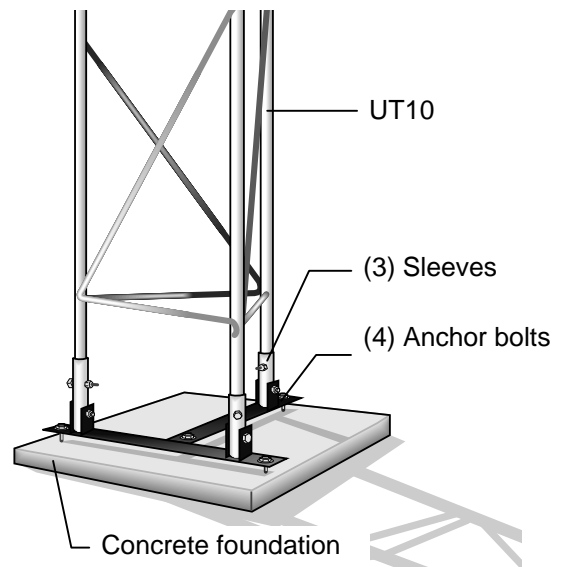

FIGURE 2.1-2. UT10 Tower and Concrete Foundation
The UT10 tower attaches to a user supplied concrete foundation as shown in Figure 2.1-2. The tilt base, anchor bolts, and nuts are included with the tower.
2. Remove the three upper bolts on the aluminum sleeves attached to the base. Loosen the nuts on the three lower bolts and position the sleeves vertically (Figure 2.1-2).